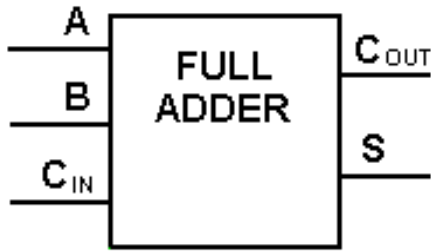

Figure 2.3: Full-Adder Functional Diagram.
The full adder accepts two input bits and an input carry and generates a sum output and an output carry. The full-adder circuit adds three one-bit binary numbers (C_{in} , A , B) and outputs two one-bit binary numbers, a sum (S) and a carry (C_{out}) as shown in Figure 2.3. The full adder is usually a component in a cascade of adders, which add 8, 16, 32, etc. binary numbers.